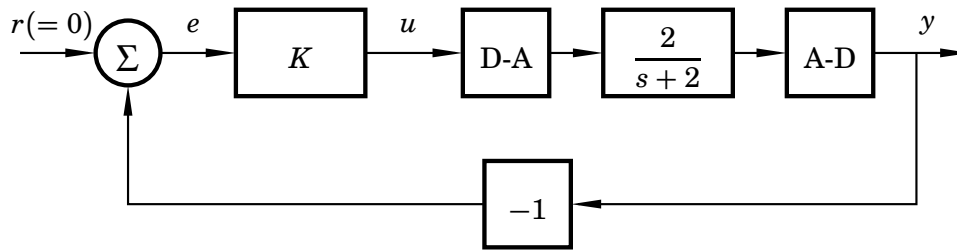

Figure 2 Computer-controlled system.
- 7.** Consider the computer-controlled system in Fig. 2. The P-controller should execute with the sampling interval $h = 0.5$ s, and the controller gain is given by $K = 2$.